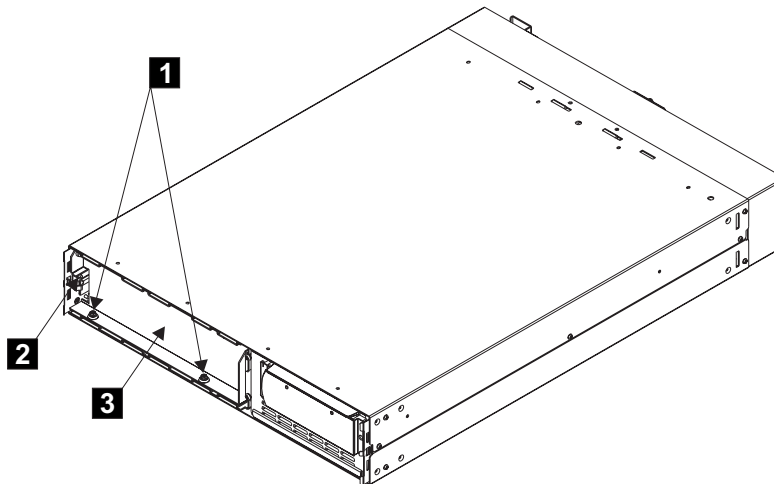

Figure 145. Remove the battery retaining bracket
- c. Remove the two bolts **1** and additional nut **2** on the left side of the bracket. See Figure 145.